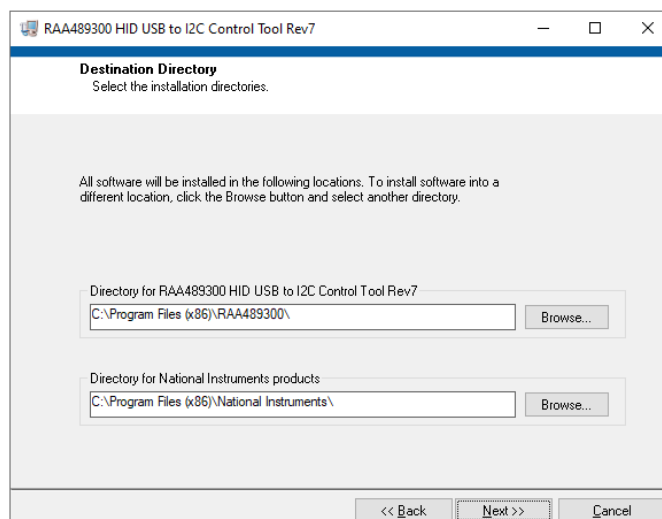

Figure 5. Destination Directory
3. Click **Install RAA489300 USBHID Control Tool** and the **Destination Directory** dialog box appears (see Figure 5).